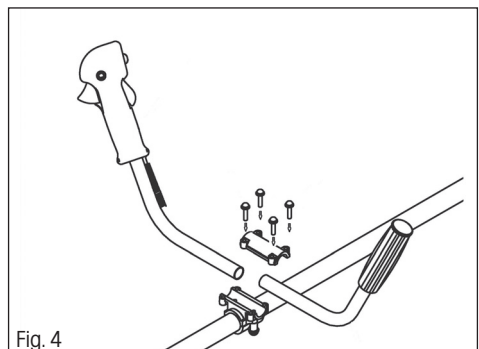

Fig. 4
- ✿ Install the handle into the mount (see fig. 4). The handle can be moved along the shaft. In this way, everybody can select the ideal comfortable working position. After selecting the ideal working position, tighten the screws. Fasten the control cable to the shaft using the supplied draw bands.